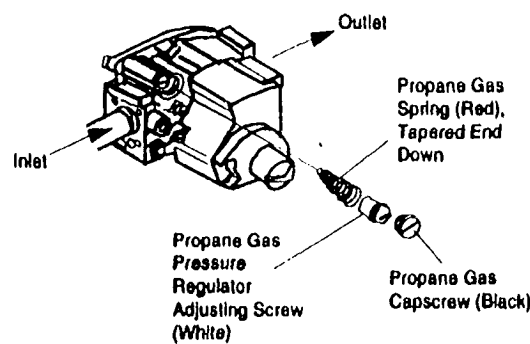

Figure 2
1. Remove regulator cap screw and pressure regulator adjusting screw. Refer to Figure 2.
3. Insert the red replacement spring with the tapered and down. Refer to Figure 2.